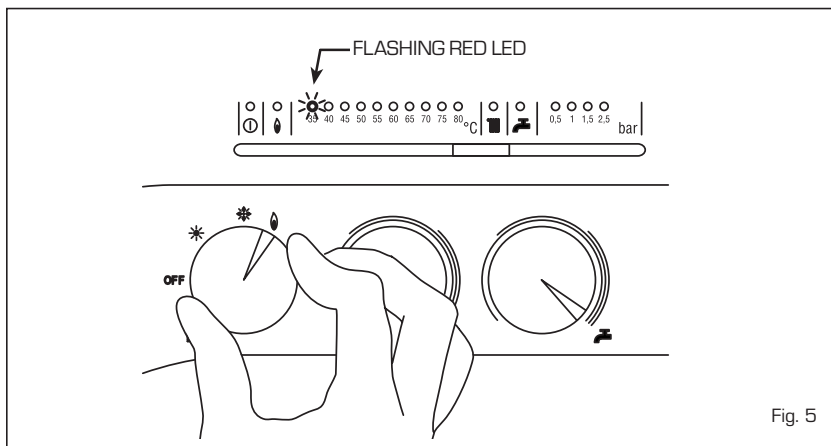

Fig. 5
– **Safety thermostat trip** (fig. 5)